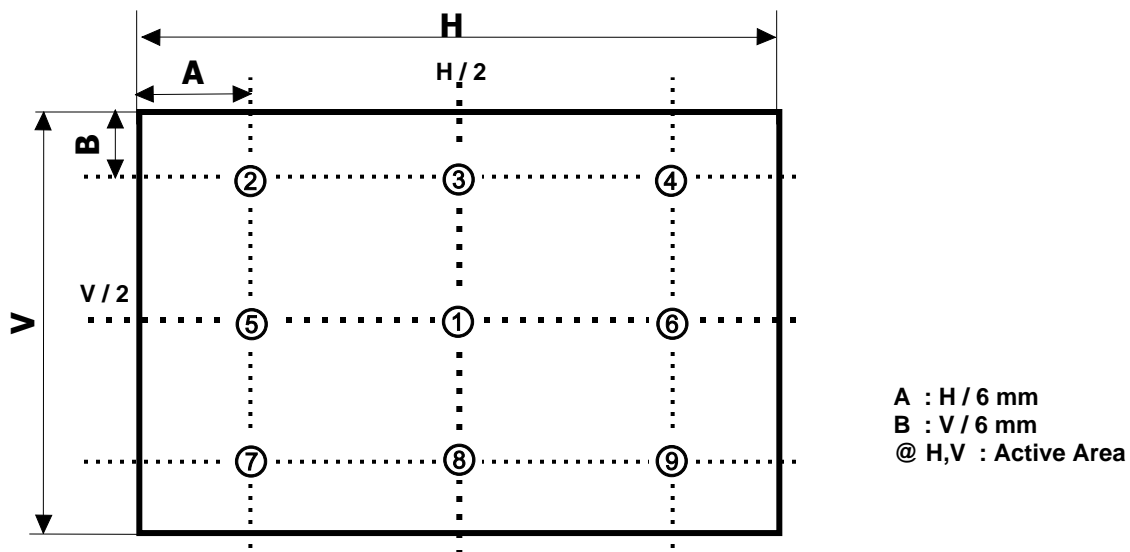

FIG. 2 9 Points for Luminance Measure
2. Surface luminance are determined after the unit has been 'ON and 1 Hour after lighting the backlight in a dark environment at  $25 \pm 2^\circ\text{C}$ . Surface luminance is the luminance value at center 1-point across the LCD surface 50cm from the surface with all pixels displaying white. For more information see the FIG. 2.
For more information, see the FIG. 2.